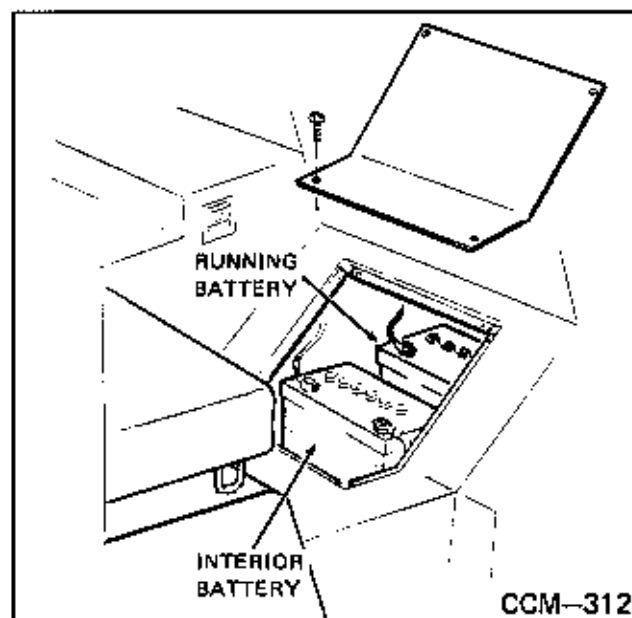

Fig. 61 Battery Compartment
The vehicle battery and one (1) interior battery is located beneath the floorboard in front of the companion seat. (Fig. 61)